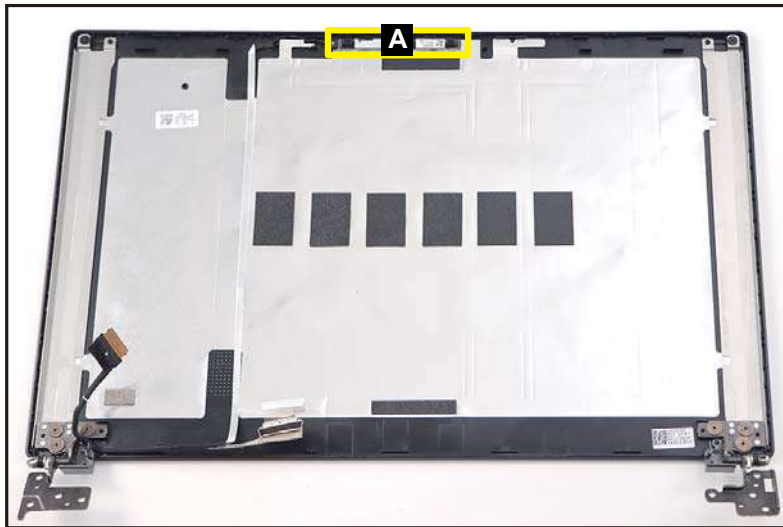

Figure 3-62. Camera Module Location
1. Find the camera module (A) on the LCD cover (Figure 3-62).